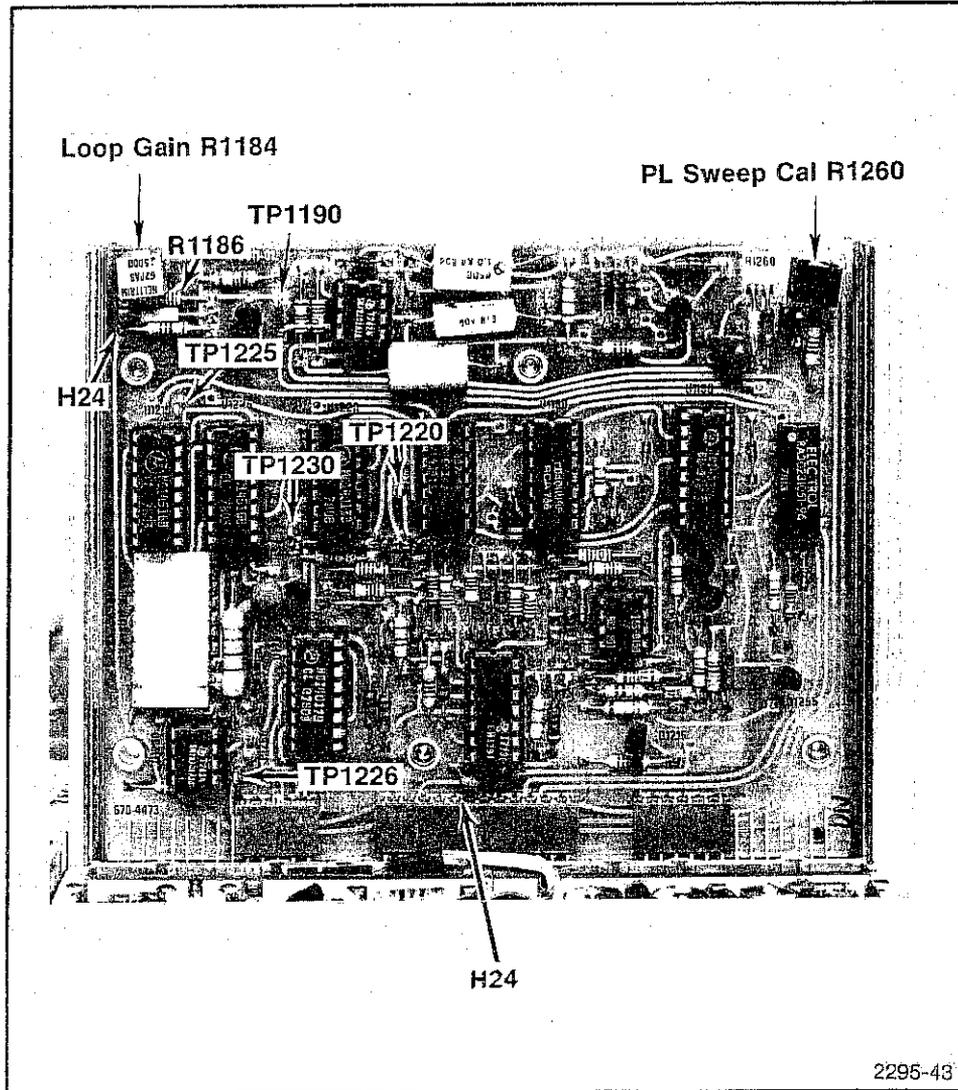

Fig. 4-35. Phase Lock Logic Control Test Points and Adjustments.
a. Set Loop Gain, R1184, (see Fig. 4-35) fully counterclockwise (ccw).
d. Connect a voltage probe, from the test oscilloscope, to the junction of H24 and R1182 (see Fig. 4-35) on the Phase Lock Logic Control board.
f. Remove the voltage probe from the junction of R1182-H24 and connect it to the center tap of R1184. Use a shorting strap to ground TP1190 (see Fig. 4-35).
k. Adjust span for one marker/division with R1260 (see Fig. 4-35).